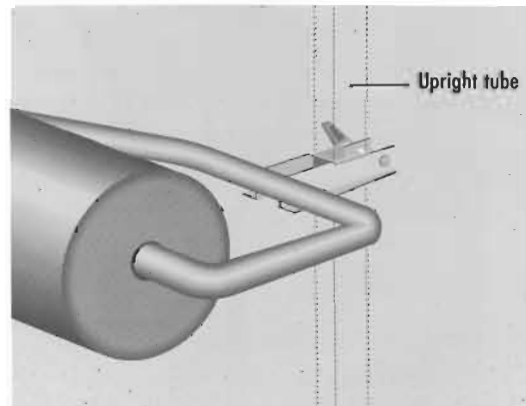

Figure 10
4. Stand on the treadmill belt. Fit the hip-pad bracket around the upright tube (Figure 10). The hip pad should angle upward.